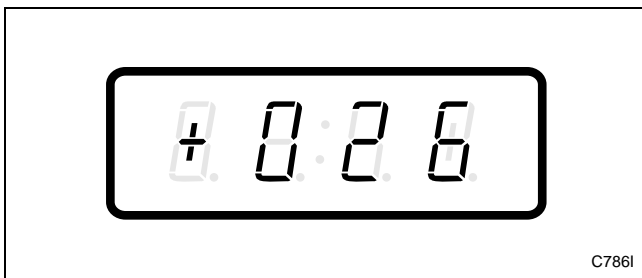

Figure 75
3. Press the DELICATES (+) or the COLD (-) keypad to scroll through the programmable options until “+026” appears in the VFD. Refer to *Figure 75*.